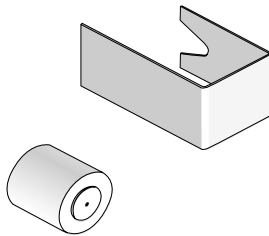

Figure 4. 01-106 Glass Bead Holding Fixture
- Hold the holding fixture in place by using the spring clip furnished with the fixture (Figure 4) or the K103/K104 outer conductor. If the spring clip is used, position it so as not to obstruct the solder access hole in housing. Ensure that the glass bead is centered, and that it is making good contact with the microstrip.